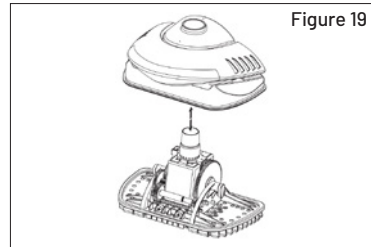

Figure 19
2. Lift the Outer Housing straight up off of the chassis. (see Figure 19).